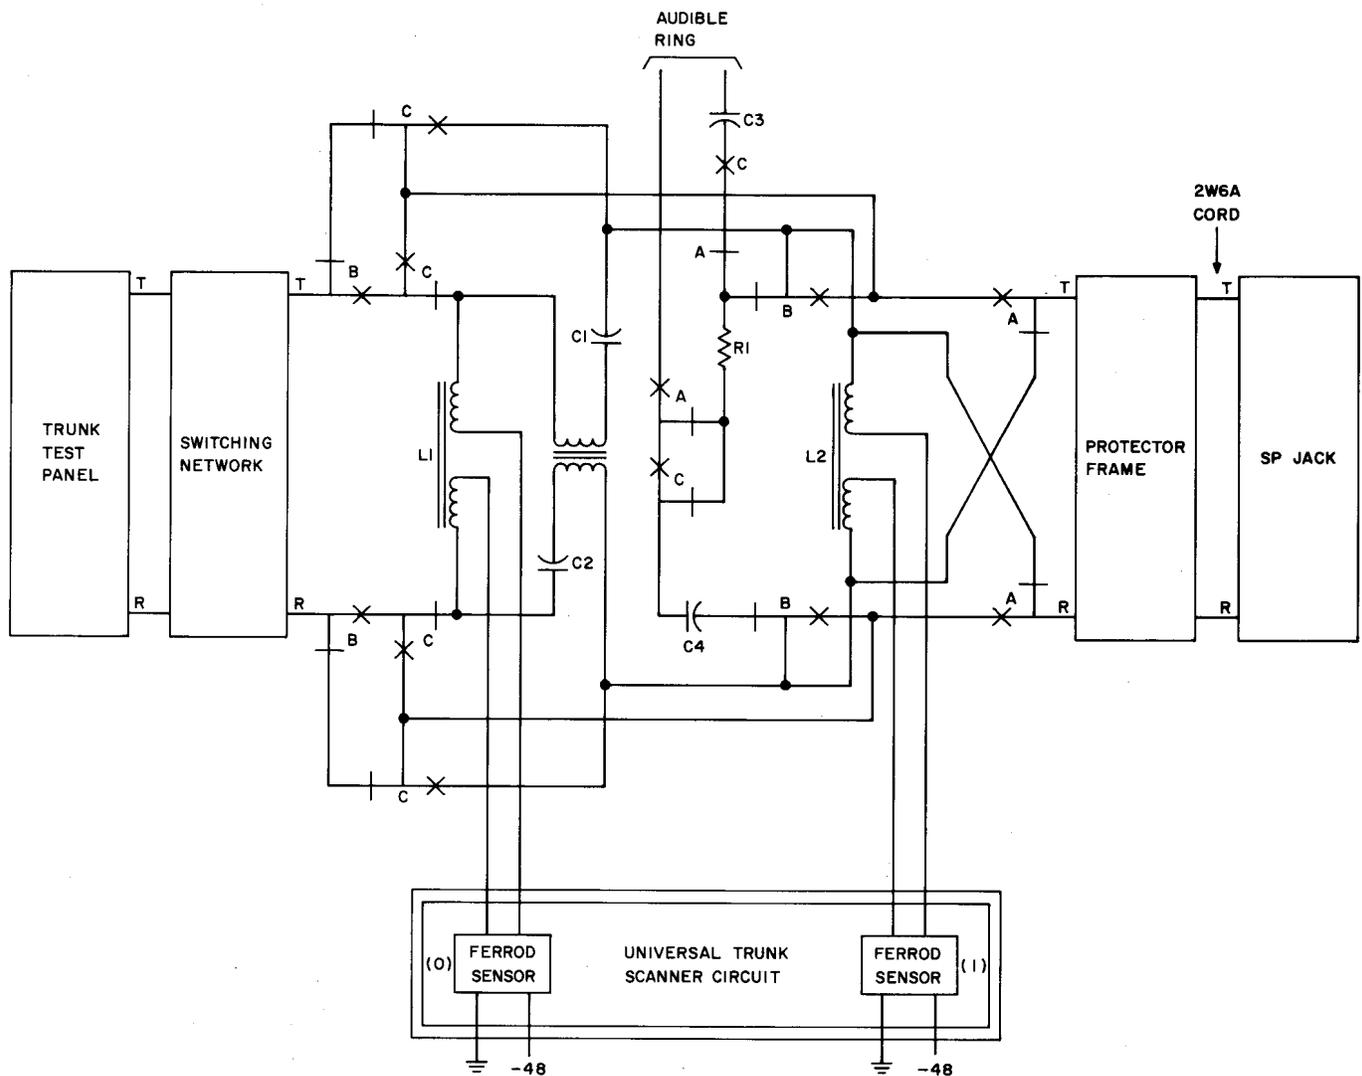
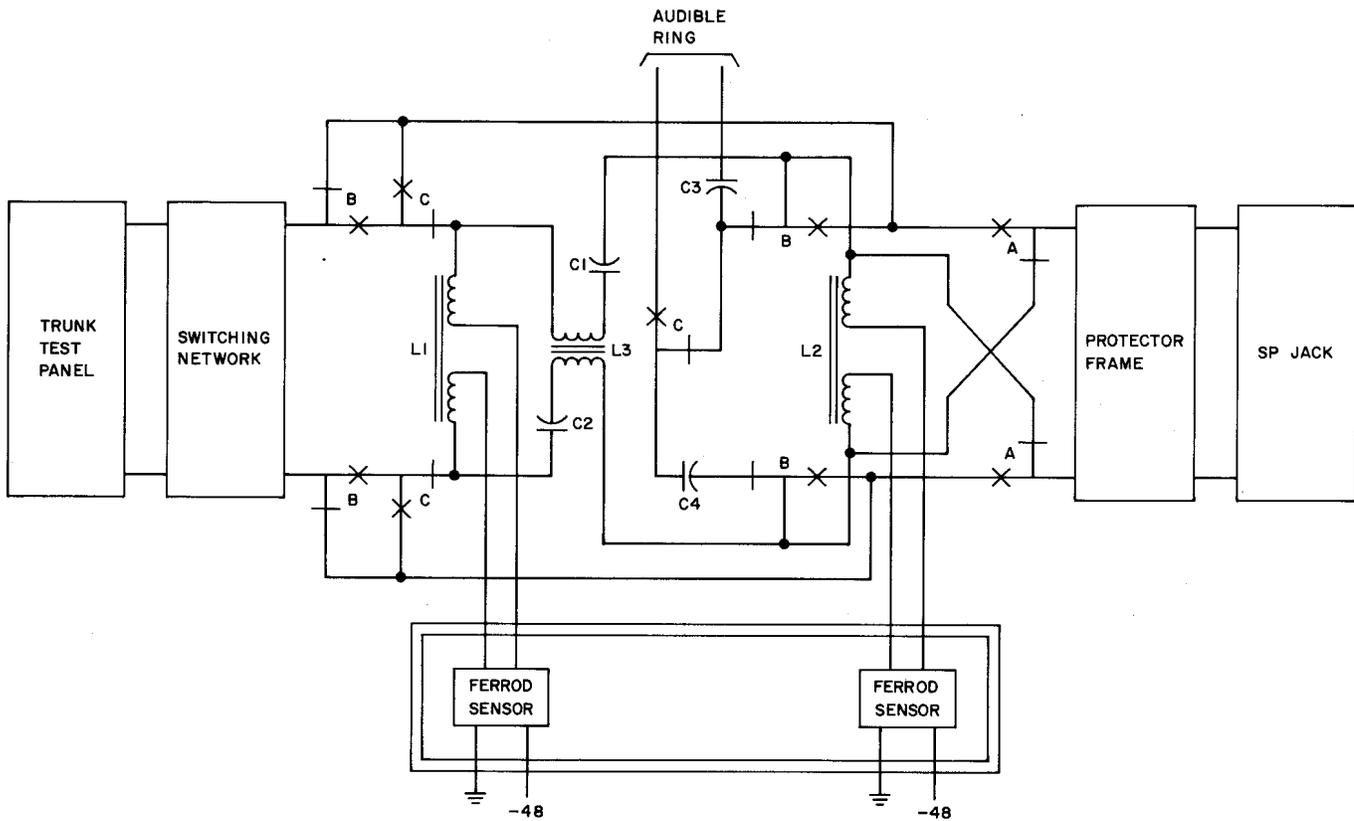

Fig. 1—Incoming Trunk Circuit—(SD-2H101)
Fig. 2—Incoming Trunk Circuit—(SD-2H104)
3.06 The following is a step-by-step procedure to make the incoming trunk circuit traffic busy and connect it to the TTP (Fig. 1 and Fig. 2).